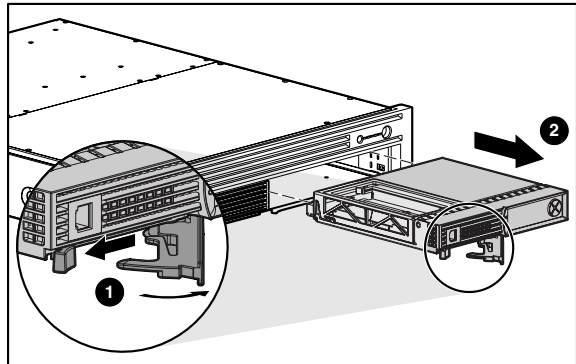

Figure 5: Removing the controller
1. Press the thumb latch and rotate the latch handle out ❶.
2. Pull the controller straight out of the chassis ❷ as shown in Figure 5.